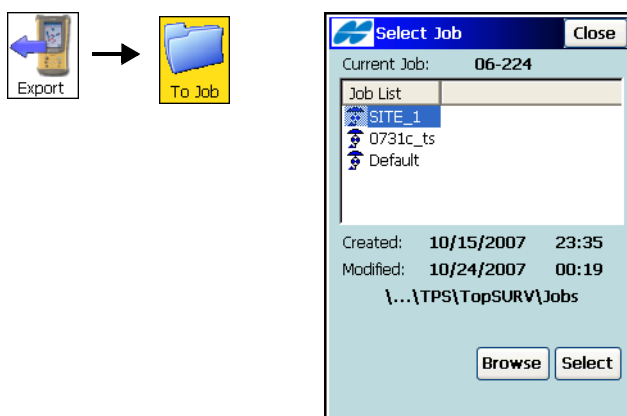

Figure 5-19. Select Job
1. Select the **Export ▶ To Job** icons. On the *Select Job* screen, highlight the destination job to export to and tap **Select**. If there is no job in the Job List that you want, press the **Browse** button to select a job from the disk (Figure 5-19).